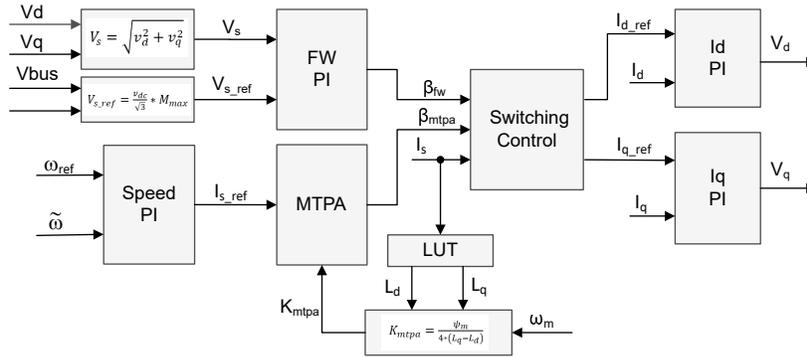

Figure 2-20. Block Diagram of Field-Weakening and Maximum Torque per Ampere Control
Figure 2-20 shows the typical control structure is used to implement field weakening. β_{fw} is the output of the field weakening (FW) PI controller and generates the reference i_d and i_q . Before the voltage magnitude reaches its limit, the input of the PI controller of FW is always positive and therefore the output is always saturated at 0.